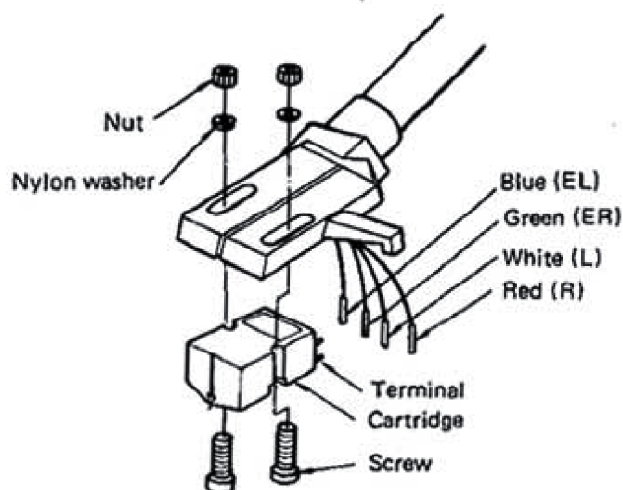

Fig. 6
- (3) The lead wires of the head shell section are color coded as in Fig. 6. Referring to the markings on the cartridge or the cartridge instruction manual, connect the lead wires to the corresponding cartridge terminals carefully, using tweezers if necessary.